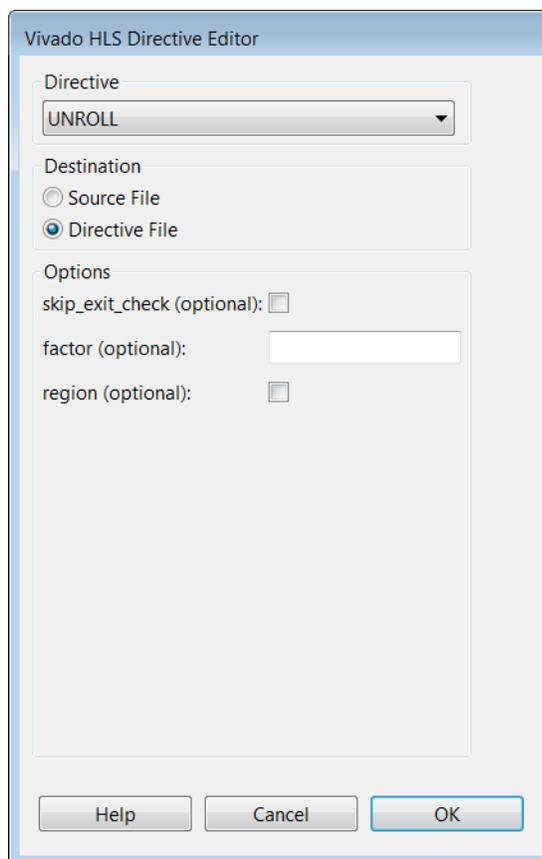

Figure 4-17: Directives Editor to Unroll For\_Loop
- b. With the Directives Editor as shown in Figure 4-17, click **OK**.